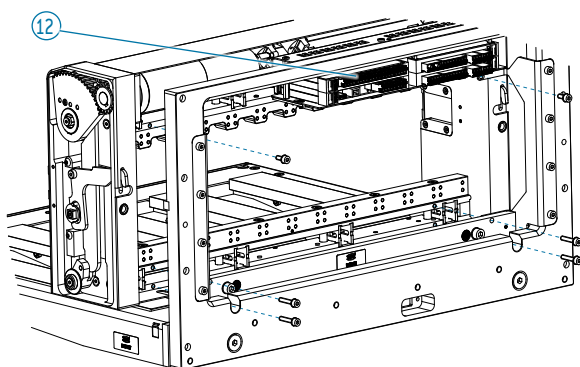

Fig. 195
*With older versions, the receiver must be completely removed from the mounting plate or the telescopic pull-out in order to slide the motor out to the rear. [see Fig. 195]